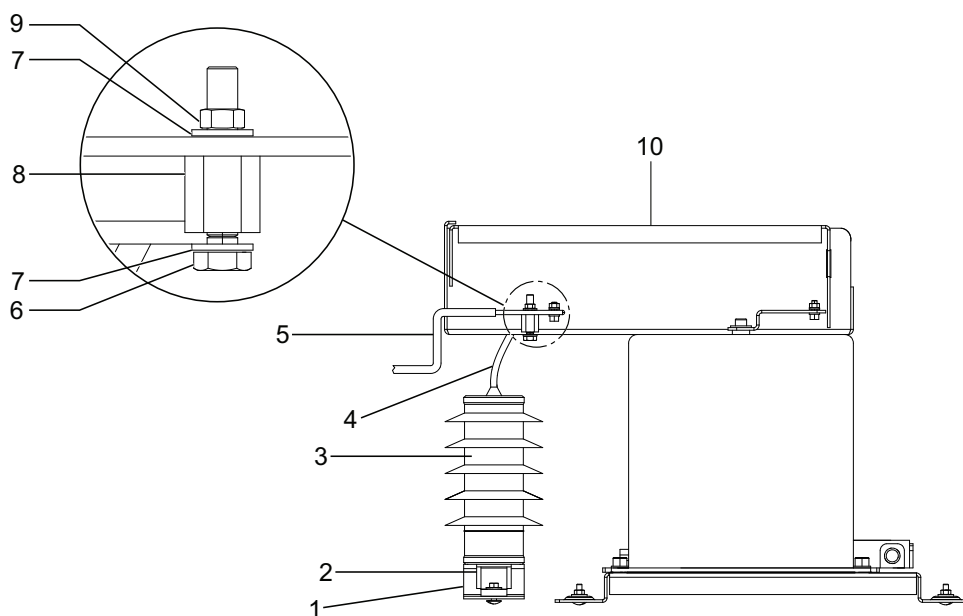

Figure 74
1. Install the surge arrester (3) to the support channel (1) with a U nut (2) (Figure 74).
2. Connect the surge arrester terminal (4) to the Fixed VT connection copper bar (5).
3. Insert the plastic bolt (8) along with screw (6) , washer (7) and nut (9).
4. Install the insulation cover (10).